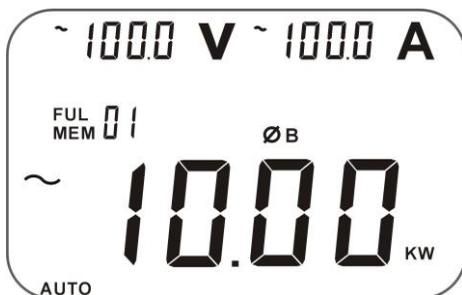

figure 11
- After sum up the current power measurement value of the first phase, then press **SELECT** to choose the second phase \emptyset B, as figure 11